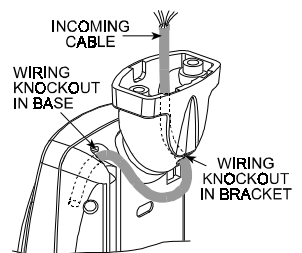

Figure 9. Routing the Cable
- Route the cable through the bracket and into the detector as shown in Figure 9.